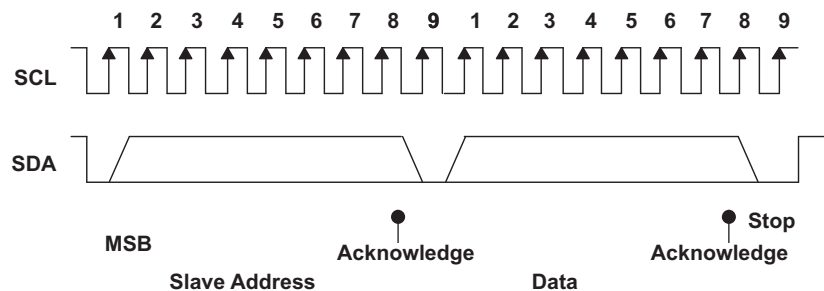

Figure 26. I2C Address and Data Cycles
- The master generates further SCL cycles to either transmit data to the slave (R/W bit 1) or receive data from the slave (R/W bit 0). In either case, the receiver needs to acknowledge the data sent by the transmitter. So an acknowledge signal can either be generated by the master or by the slave, depending on which one is the receiver. The 9-bit valid data sequences consisting of 8-bit data and 1-bit acknowledge can continue as long as necessary (see Figure 26).